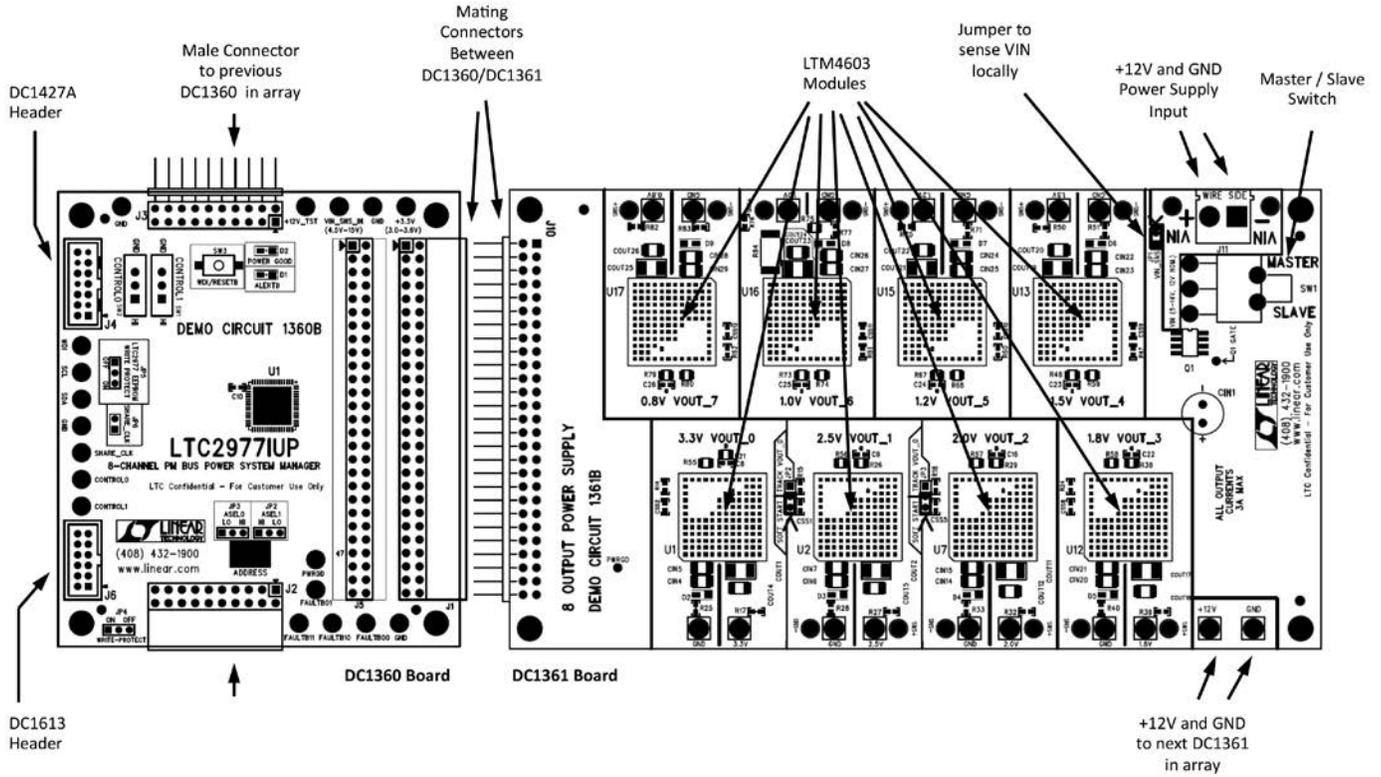

Figure 5. DC1540B Details
6. Connect a 12V power supply with >1/2 Amp capacity to the VIN+ and VIN- inputs of the green terminal block J11 on DC1361B. Do not turn on 12V yet. Be careful to hook up polarity correctly! See Figure 5.